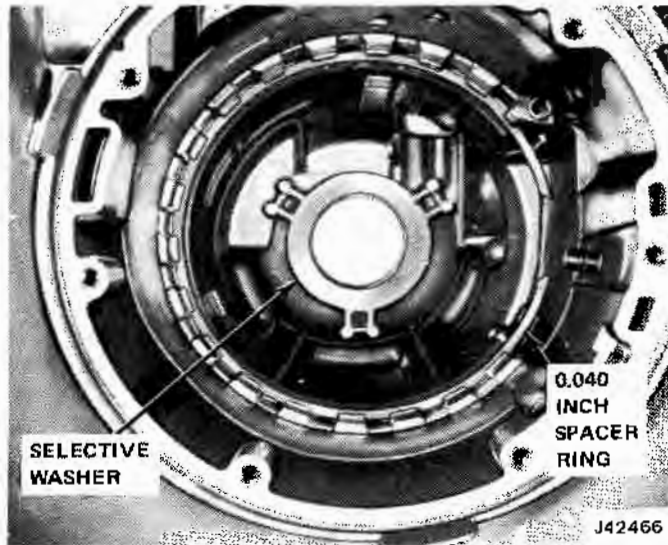

Fig. 7-36 Selective Washer and Spacer Ring
(4) Place gear unit assembly, with output shaft facing down, in work bench hole and Holding Fixture J-21364.
(5) Remove rear unit selective washer from transmission case, as in fig. 7-36.
(6) Remove support to case spacer ring (fig. 7-36).